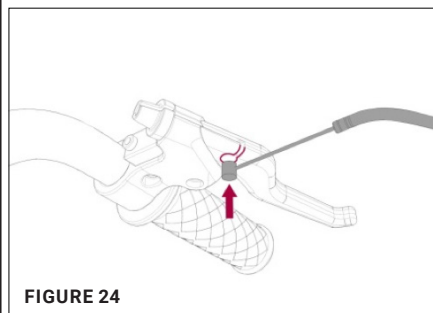

FIGURE 24
9. Attach the brake cable. [Figure 24]